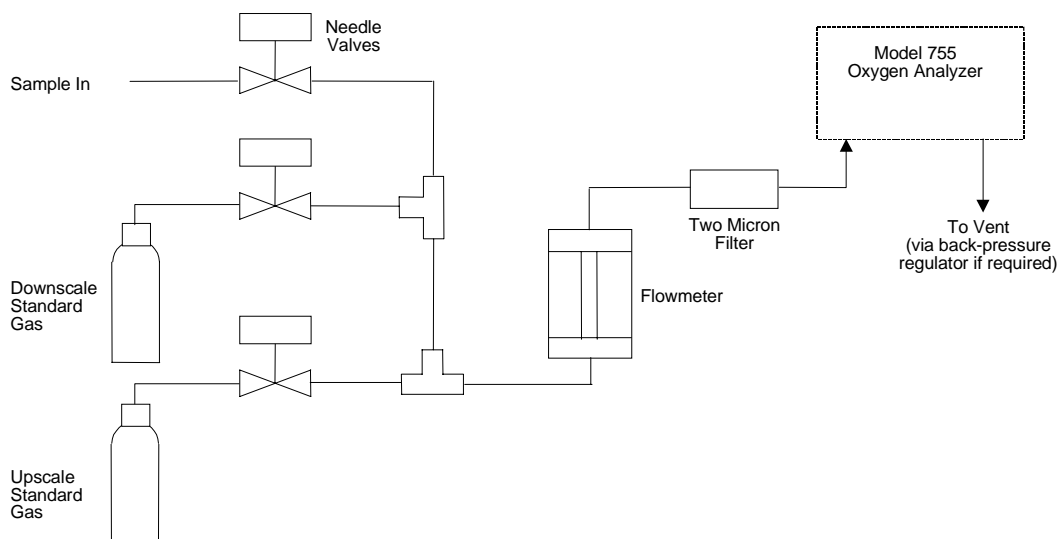

FIGURE 2-8. CONNECTION OF TYPICAL GAS SELECTOR PANEL TO MODEL 755
- Provision for selecting sample, downscale standard, or upscale standard gas for admission to the analyzer, and for measuring the flow of the selected gas. Typically these functions are provided by a gas selector panel available as an accessory. A typical gas selector panel, is shown in Figure 2-8.